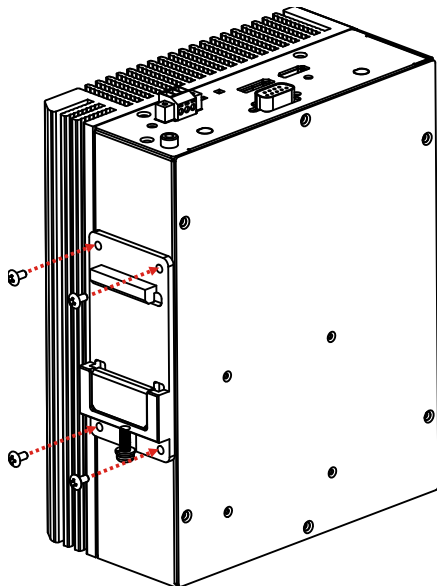

Figure 3-17: DIN Rail Mounting Bracket Installation
Step 2: Attach the mounting bracket to the rear panel of the DRPC-230-ULT5. Secure the bracket with four M3*6 retention screws (**Figure 3-17**).